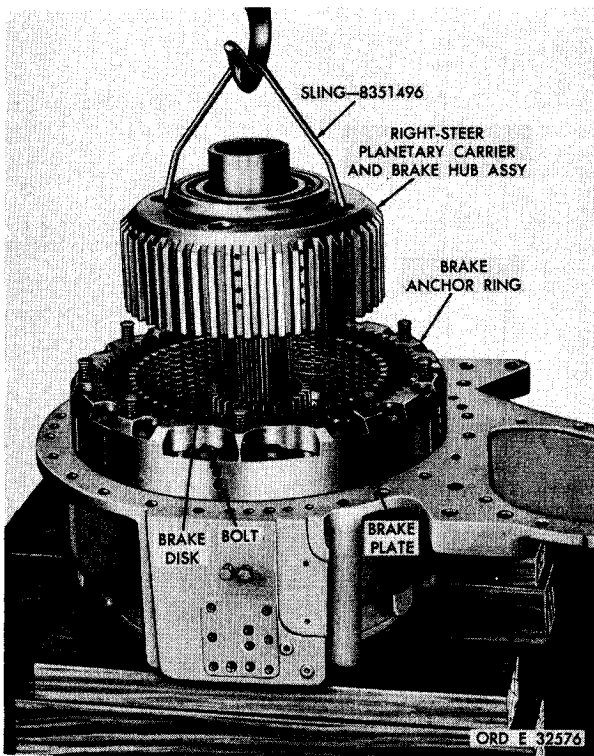

Figure 157. Removing (or installing) right-steer planetary carrier and brake hub assembly
a. Using hoist and sling 8351496, remove the right-steer planetary carrier and brake hub assembly (fig. 157). Refer to pars. 157 through 161 for rebuild of the steer planetary carrier and brake hub assembly.
b. Remove the right brake plates and disks (fig. 157).
c. Remove 18 bolts (two different lengths), using a 5/8-inch wrench, retaining the brake anchor ring (fig. 157).
d. Remove brake anchor ring (fig. 157).